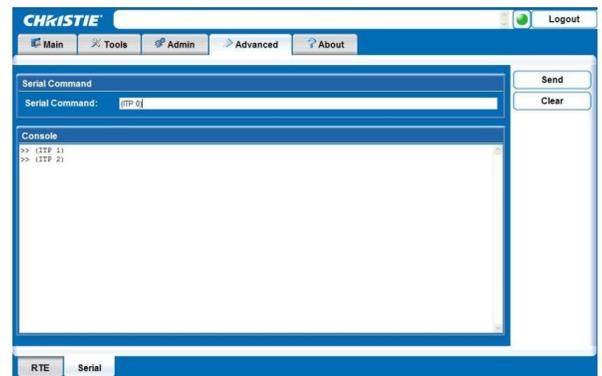

Figure B-23 Add Serial Command
2. Click **Send** to add the serial command. See **Figure B-23**.